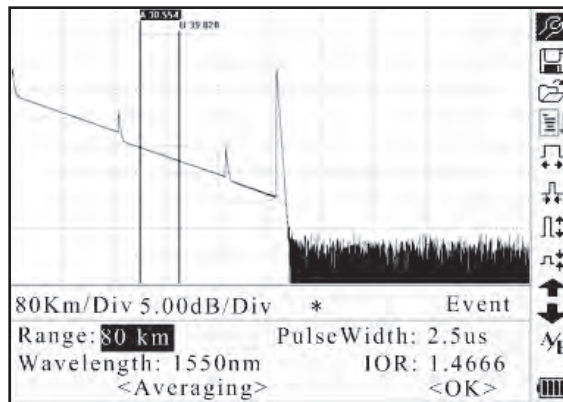

Figure 4-9. Alter Measurements in Realtime Testing
2. Use ◀ and ▶ to move to the parameter to be changed (Figure 4-9), and then press **Enter**.